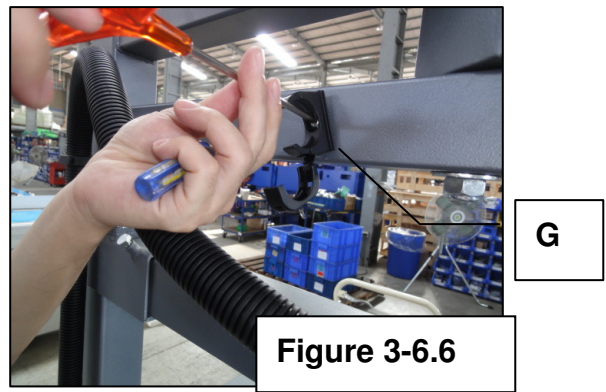

Figure 3-6.6
5. Fit the hose supports on the support arm to fix the hose as **G** (Fig. 3-6.6)